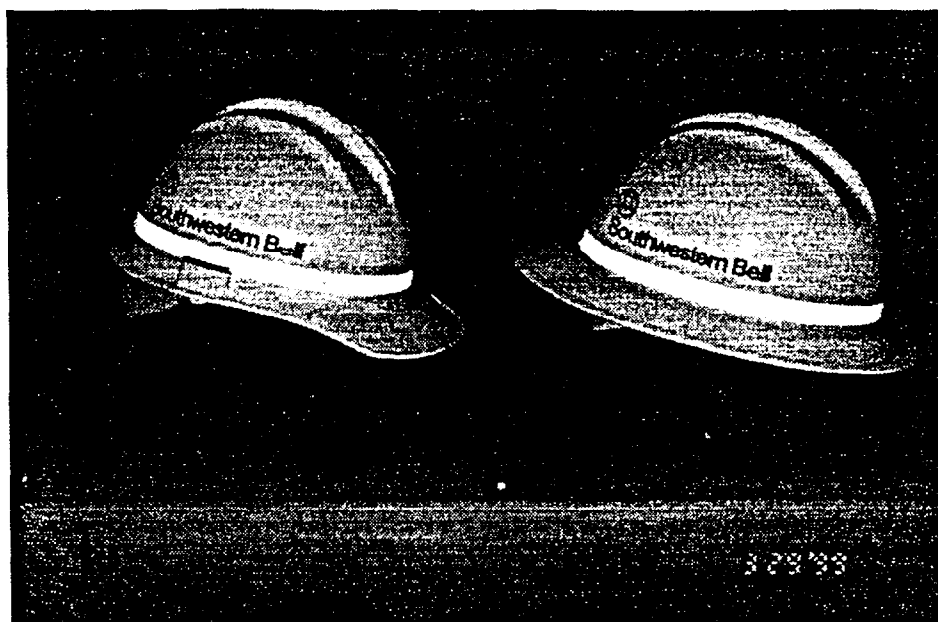

Figure 1 – C Safety Cap & Hat
- 2.01 The C safety cap and safety hat (Fig. 1) consists of molded, high-impact plastic shells equipped with detachable suspensions which are adjustable to different head sizes. Both styles are available in white only with a single white reflective stripe, for safety purposes, running horizontally around the bottom edge of the crown and the Southwestern Bell logo hot stamped on each side.